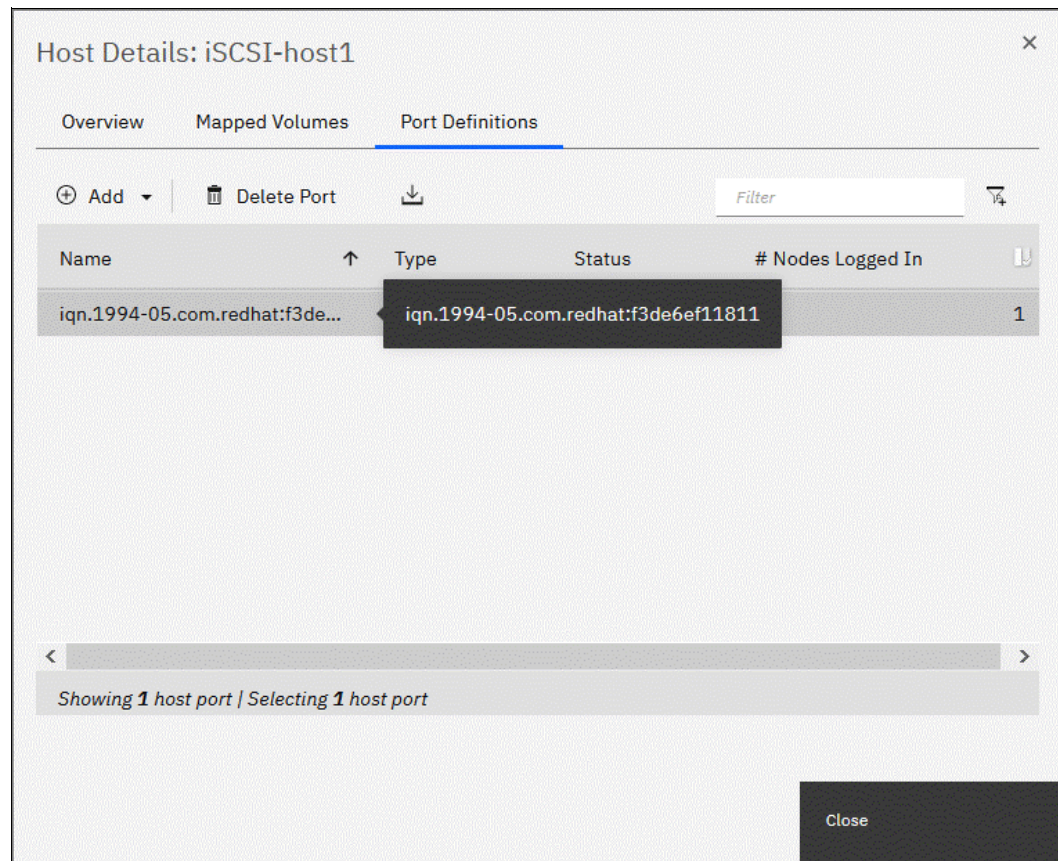

Figure 7-77 Host Details: Port Definitions tab
4. After the host is ready and the iSCSI initiator is configured, define a host object on the storage system, as described in “Creating iSCSI host objects” on page 505. Make sure that the IQN is set correctly in the Host Details window in the Port Definitions tab (see Figure 7-77).